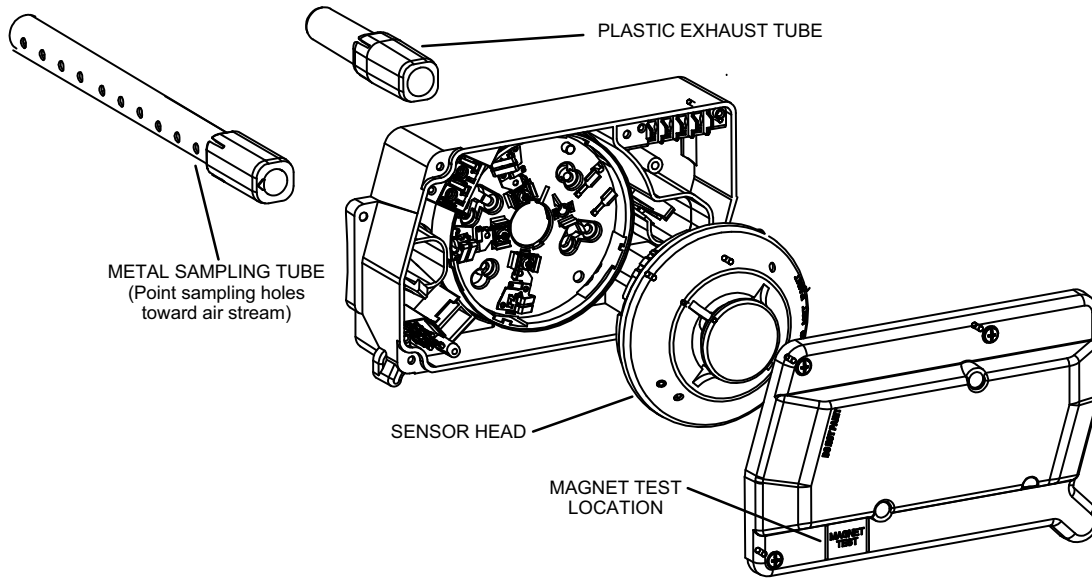

FIGURE 2
- 2 - Slide metal sampling tube onto the back side of the sensor. When sensor is installed in return air applications, slide plastic exhaust tube onto back side of sensor. See figure 2.